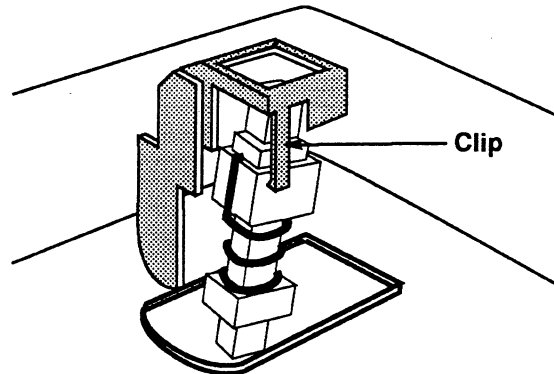

Figure 5-17. Actuator Clip
3. Carefully pry open the clip holding the actuator in place and remove. Figure 5-17.